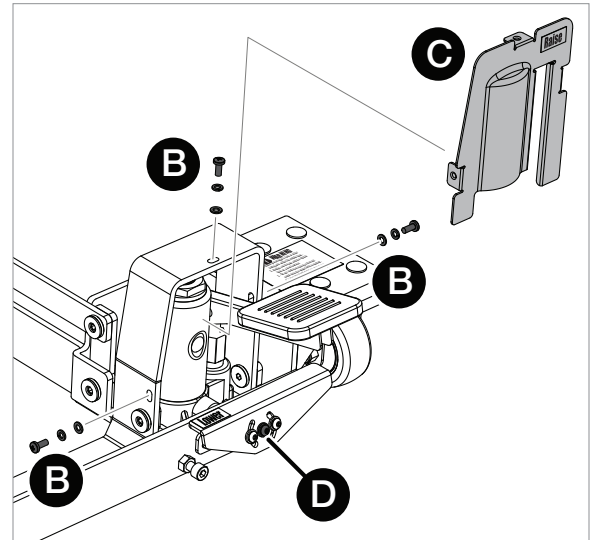
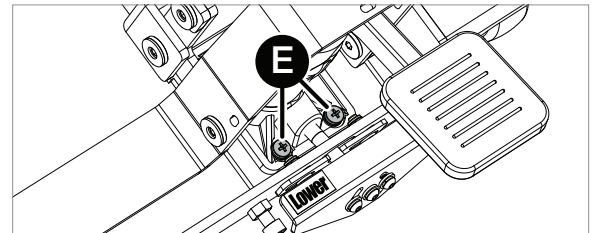
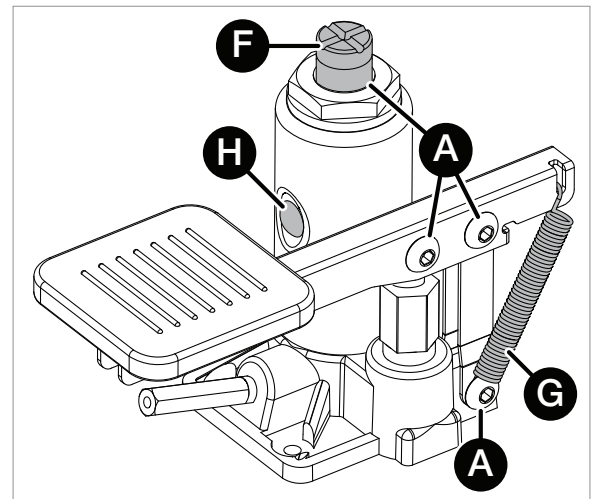

Fig. 8
Fig. 9
Fig. 10
- Use SAE 30 oil to periodically lubricate the points **(A)** shown in Fig. 10. To access the lubrication points, remove the three jack cover screws **(B)** using a Philips head screwdriver (see Fig. 8) and then remove the jack cover **(C)**.
1. Make sure the saw is lowered to the ground. Remove the center release lever screw **(D)** shown in Fig. 8 using a 3 mm hex key. Remove the three jack cover screws, and the two jack mounting screws **(E)** shown in Fig. 9 using a Philips screwdriver.
3. Place a flat head screwdriver on top of the jack lifting piston **(F)** (see Fig. 10) and push the piston down as far as possible. Remove the jack by tilting the top forward and sliding the hexagonal shaft back out of the hole in the mobile base frame.
4. Once the jack is removed, place it in an upright position and remove the extension spring **(G)**. Completely depress the foot pedal. Remove the rubber filler plug **(H)** shown in Fig. 10 by pulling it out with your fingers or prying it out with a flat head screwdriver. Add hydraulic jack oil so that the oil level is just to the bottom of the filler hole. Use only hydraulic jack oil. Replace the filler plug and extension spring and reinstall the jack by reversing the steps set forth above. Finally, verify that the support bracket is properly adjusted so that it is supporting the hexagonal shaft.